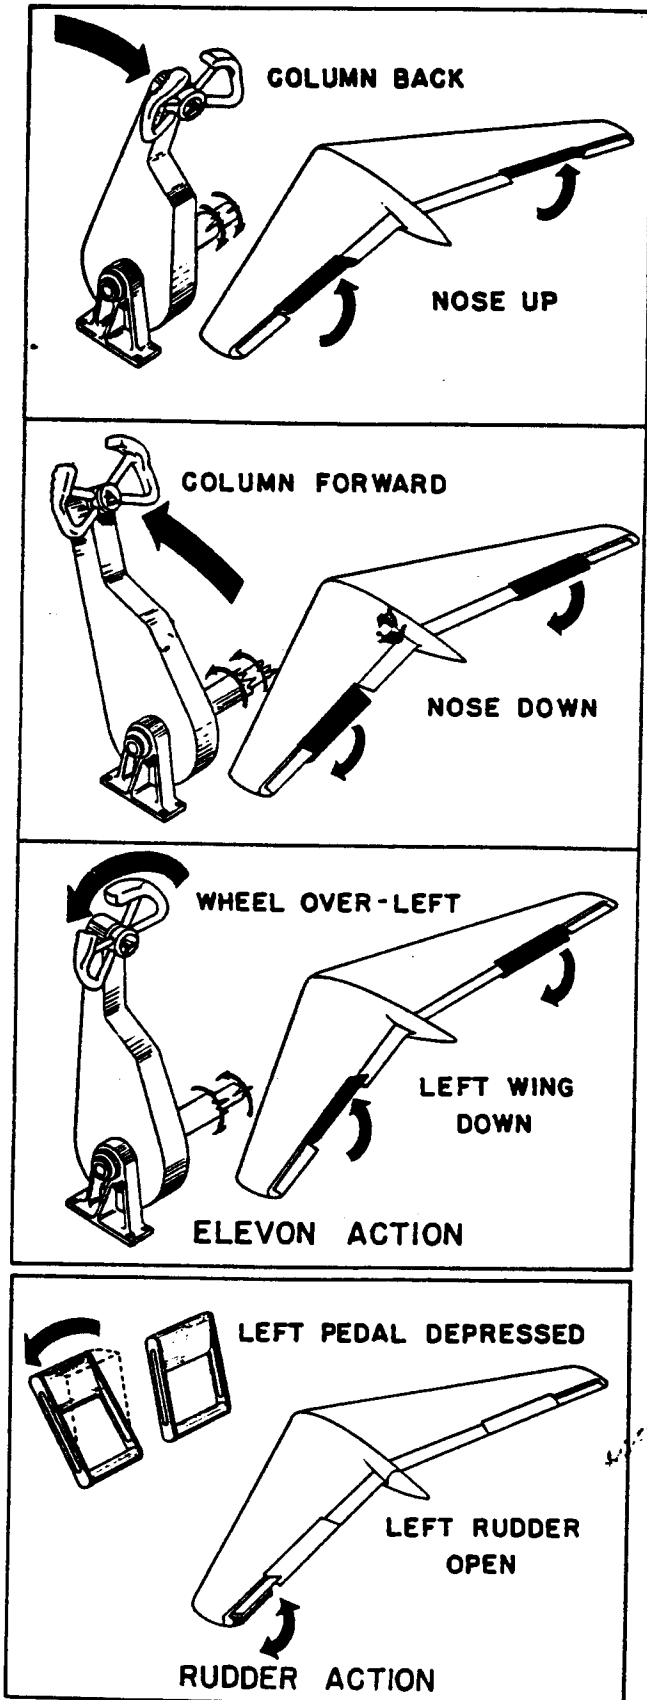

Figure 4. Elevator and Rudder Action
and aft movement of the column moves both elevons together as a conventional elevator and turning the control wheel moves the elevons in opposite directions, in a manner similar to conventional ailerons. Operation of the control column and wheel may be made individually or in combination as illustrated in figure 4. Simultaneous movement of the control column and wheel produces a combined elevator and aileron action.
6. RUDDERS. (See figure 4.)- A hydraulically actuated, double split-flap type rudder is attached to each trim flap. The rudders move with the trim flaps when the trim flaps are used to trim the airplane but they operate independently of the flaps for directional con-